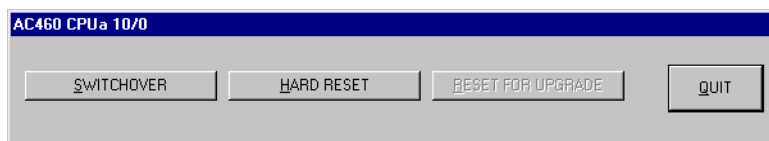

Figure 58. Command Push-buttons
When a controller is selected, three (3) command push-buttons are displayed, Figure 58. They allow the user to issue commands to the controller in order to perform a software upgrade. When a command push-button is selected, a confirmation is required.